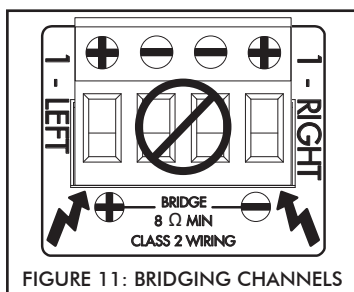

FIGURE 11: BRIDGING CHANNELS
3. Connect the speaker's "+" lead to the left side of the connector marked "+" (see Figure 11).
4. Connect the speaker's "-" lead to the right side of the connector marked "+" (see Figure 11).